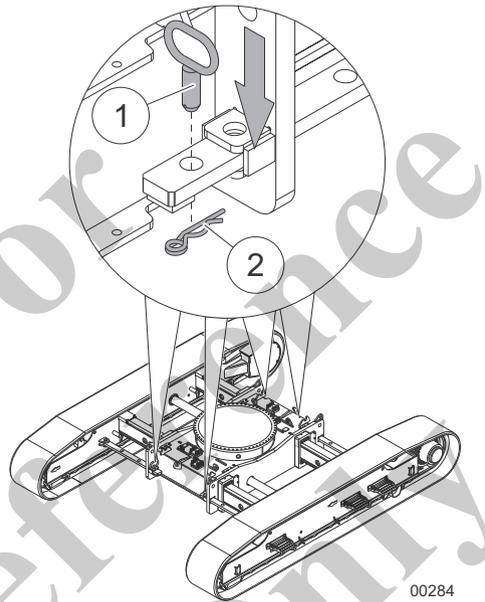

Fig. 104 Bolting the retracted undercarriage
9	Insert the bolts (1) in Fig. 104 at the positions shown.
10	Secure the bolts with the retaining springs (2) in Fig. 104.